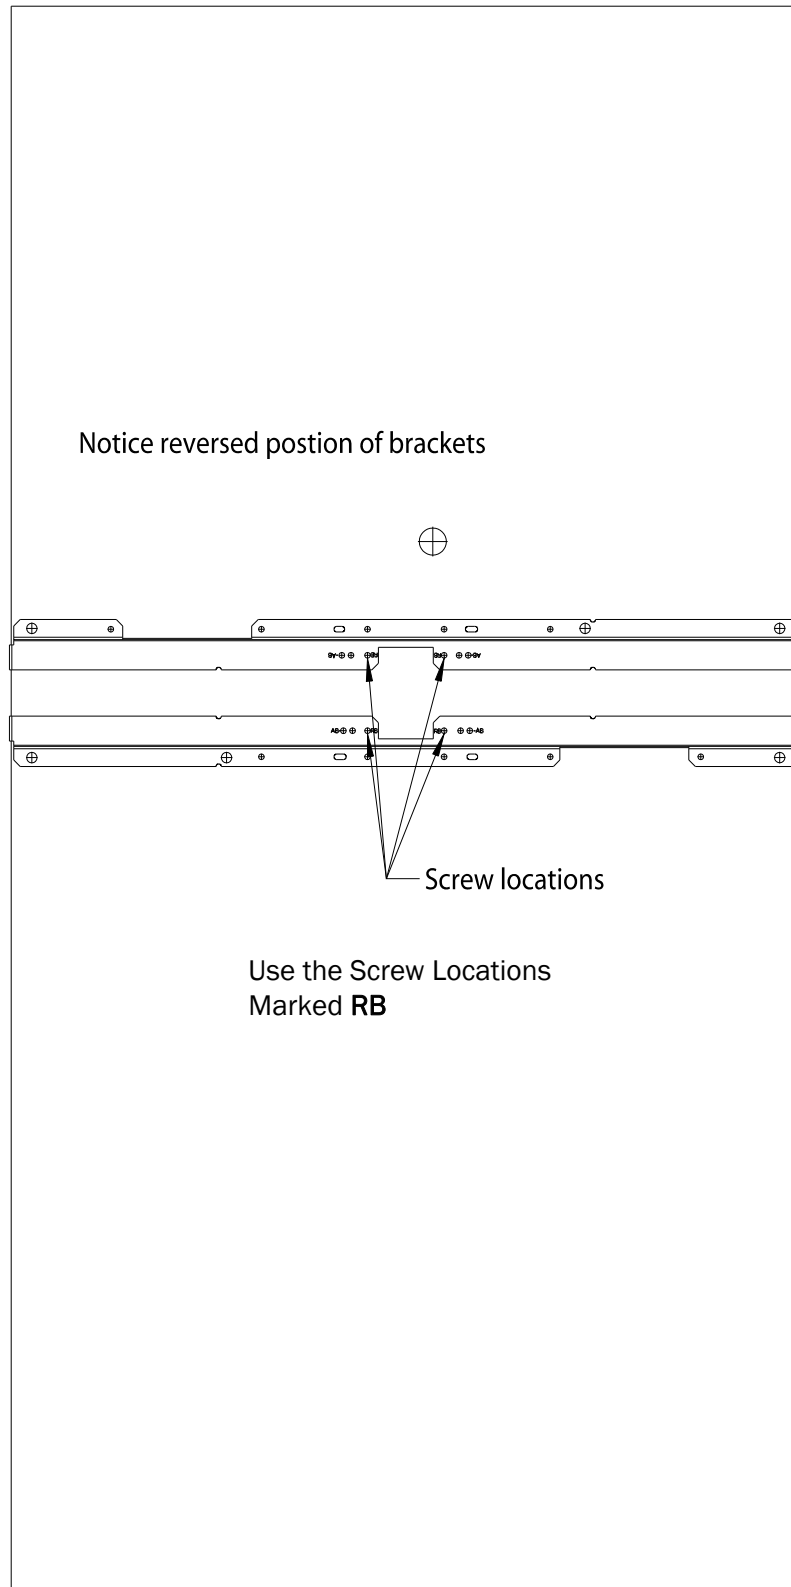

Figure 2-21: RA Below Ceiling Tile Mounting Rail Screw Locations
4. Mark the location of the **RB** screw holes in the mounting rails on the ceiling tile where the holes will be drilled through the tile as shown in Figure 2-21. Drill four 0.25-inch (6 mm) diameter holes in the ceiling tile.